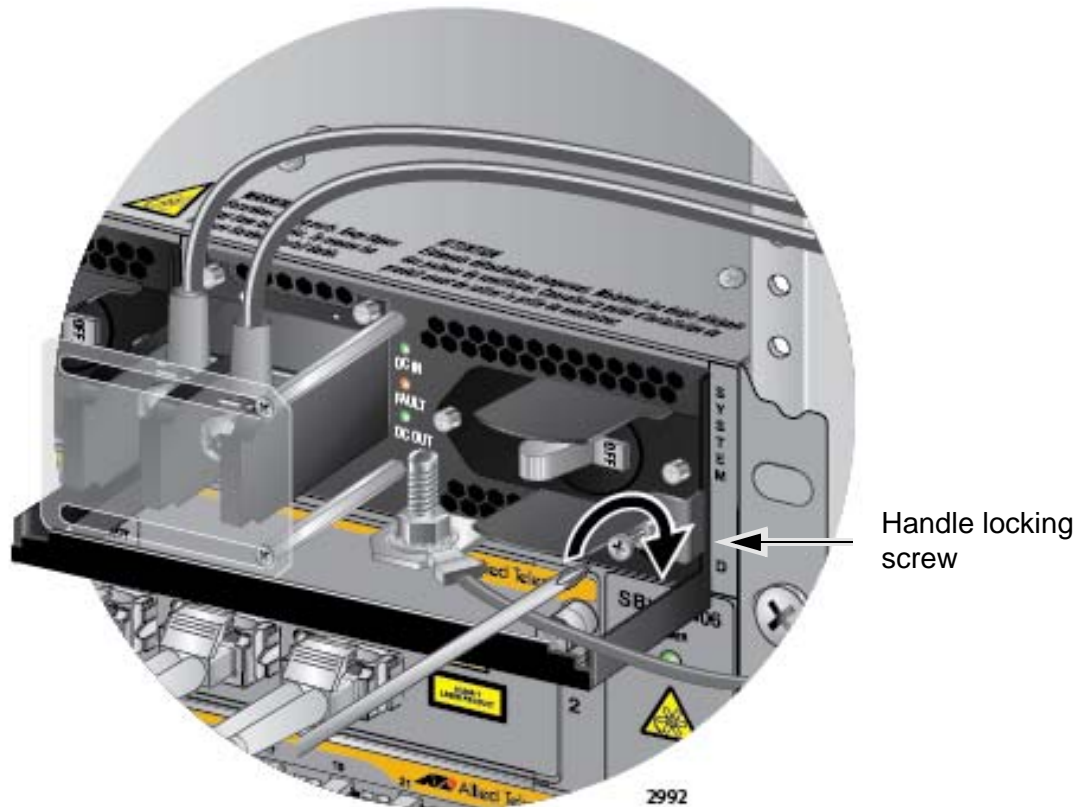

Figure 115. Tightening the Handle Locking Screw
9. With a #2 Phillips-head screwdriver, tighten the handle locking screw to secure the power supply to the chassis. See Figure 115 on page 176.
7. With a #2 Phillips-head screwdriver, tighten the handle locking screw to secure the power supply to the chassis. See Figure 115 on page 176.